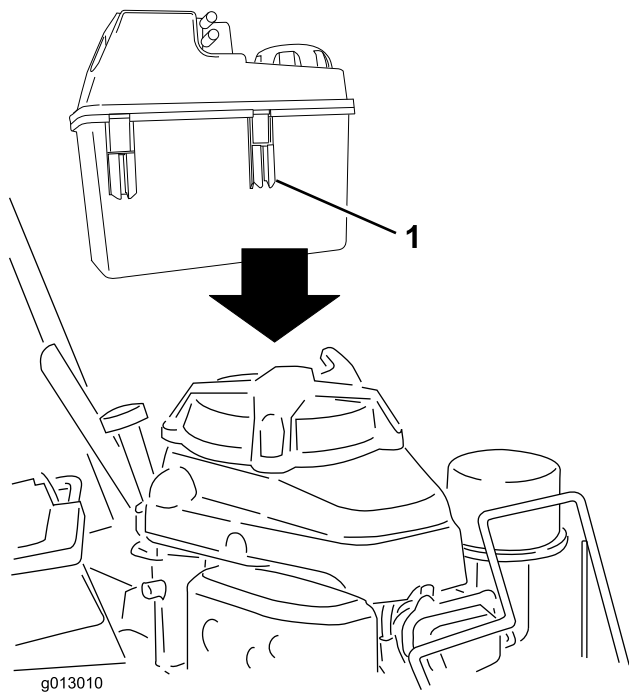

Figure 5
1. Slide the plastic clips on the front of the fuel tank onto the fuel tank mount (Figure 5).